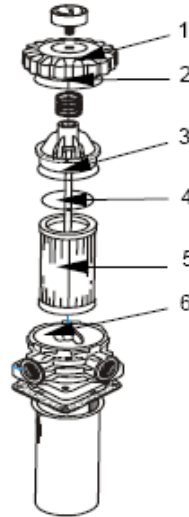

Figure 1 Return Oil Filter
13. **Removal.** Remove the return oil filter as follows (Fig 1):
- b. Turn the cover (Fig 1, Item 1) to free it while pressing on it.
- d. Unscrew the wing nut (Fig 1, Item 6)
- e. Remove and discard the filter insert (Fig 1, Item 5) and seal rings (Fig 1, Items 2, 3 and 4).
- 14. Installation.** Install the return oil filter as follows (Fig 1):
- a. Insert a new seal ring and filter insert (Fig 1, Items 4 and 5).
- b. Tighten the wing nut (Fig 1, Item 6).
- c. Fit new seal rings (Fig 1, Items 2 and 3).
- e. Attach the cover on the return oil filter (Fig 1, Item 1)